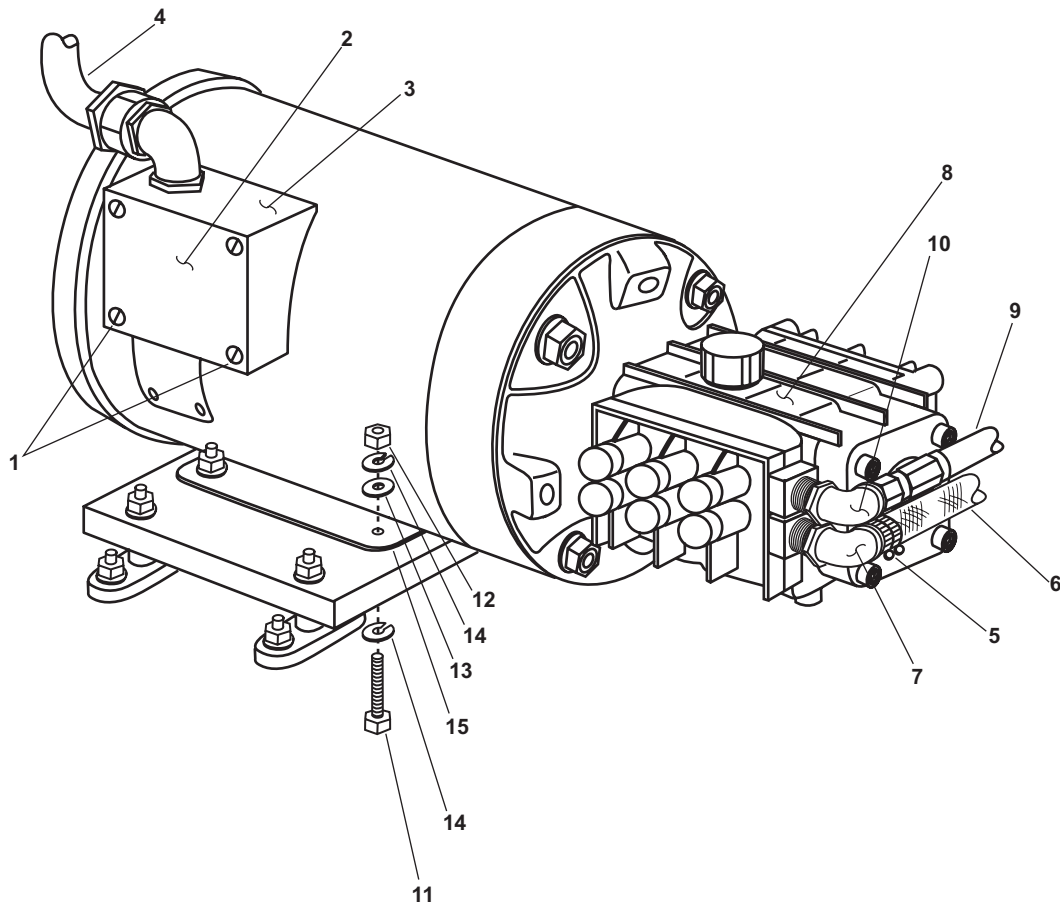

Figure 1. High Pressure Pump
3. At the applicable high pressure pump motor, remove the four screws (figure 1, item 1) that secure the junction box cover (figure 1, item 2). Remove the junction box cover.
4. Take voltage readings with a multimeter, measuring at the connection points in the junction box (figure 1, item 3), to ensure that electrical circuits are deenergized. If voltage is present, ensure that the proper circuit breakers are OFF, locked out, and tagged out (FM 55-502). If no voltage is present, continue with the procedure.
5. Label and disconnect the wires, and remove the cabling (figure 1, item 4) from the junction box (figure 1, item 3) of the applicable high pressure pump.
6. Slowly, loosen the clamp (figure 1, item 5) to the low pressure hose (figure 1, item 6) until water begins to drain from the fitting.
8. Remove the low pressure hose (figure 1, item 6) from the low pressure fitting (figure 1, item 7).
9. Remove the low pressure fitting (figure 1, item 7) from the high pressure pump (figure 1, item 8).
10. Remove the high pressure hose (figure 1, item 9) from the high pressure fitting (figure 1, item 10).
11. Remove the high pressure fitting (figure 1, item 10) from the high pressure pump (figure 1, item 8).
12. Remove four bolts (figure 1, item 11), four nuts (figure 1, item 12), eight flat washers (figure 1, item 13) and four lockwashers (figure 1, item 14) that secure the high pressure pump (figure 1, item 8) to its mounting plate (figure 1, item 15), and remove the high pressure pump.
1. Place the high pressure pump (figure 1, item 8) on the mounting plate (figure 1, item 15), and secure it in place with four bolts (figure 1, item 11), eight flat washers (figure 1, item 13), four new lockwashers (figure 1, item 14) and four nuts (figure 1, item 12).
2. Install the high pressure fitting (figure 1, item 10) into the high pressure pump (figure 1, item 8).
3. Install the low pressure fitting (figure 1, item 7) into the high pressure pump (figure 1, item 8).
4. Install the low pressure hose (figure 1, item 6), and secure it in place with the clamp (figure 1, item 5).
5. Install the high pressure hose (figure 1, item 9).
6. Install the cable (figure 1, item 4) and connect the wiring using the marks and labels from step 5 of Removal as a guide.
7. Install the junction box cover (figure 1, item 2), and secure it in place with four screws (figure 1, item 1).
10. Perform the startup (WP 0005 00) on the applicable ROWPU, and check for leaks in the area of the high pressure pump (figure 1, item 8).
11. Verify proper operation of the high pressure pump (figure 1, item 8). Ensure there are no unusual noises or vibration, and that the ROWPU operates at proper system pressure.